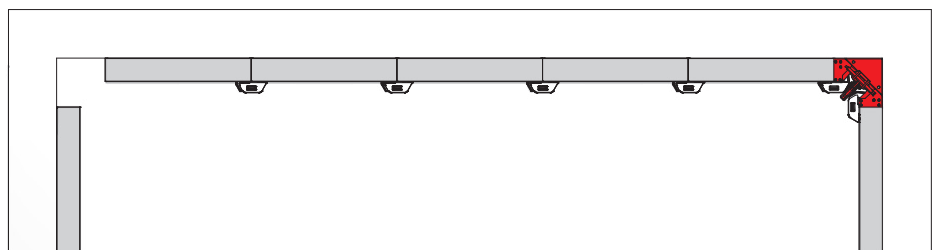

Fig. 49.3
3. Lift the ST stripping corners out of their position, then strip the panels (Fig. 49.3).